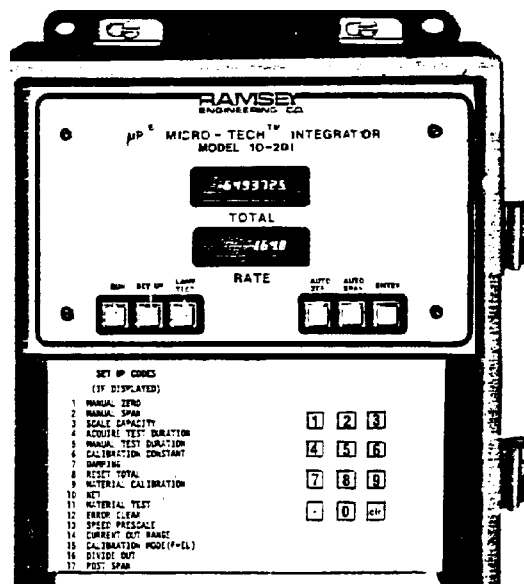

FIGURE 5
7. Determine the previous span setting by pressing "SET-UP 2, ENTER". Figure 5 shows the Ramsey 10-201 Micro Tech Totalizer.